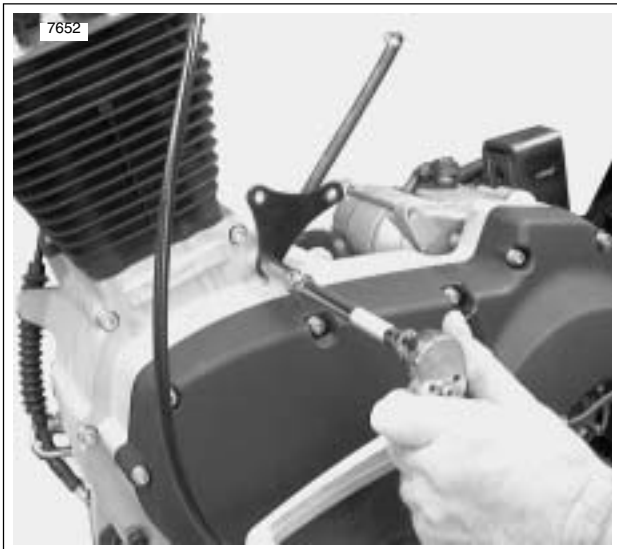

Figure 3-16. Air Cleaner Bracket
34. See Figure 3-16. Remove air cleaner box bracket.